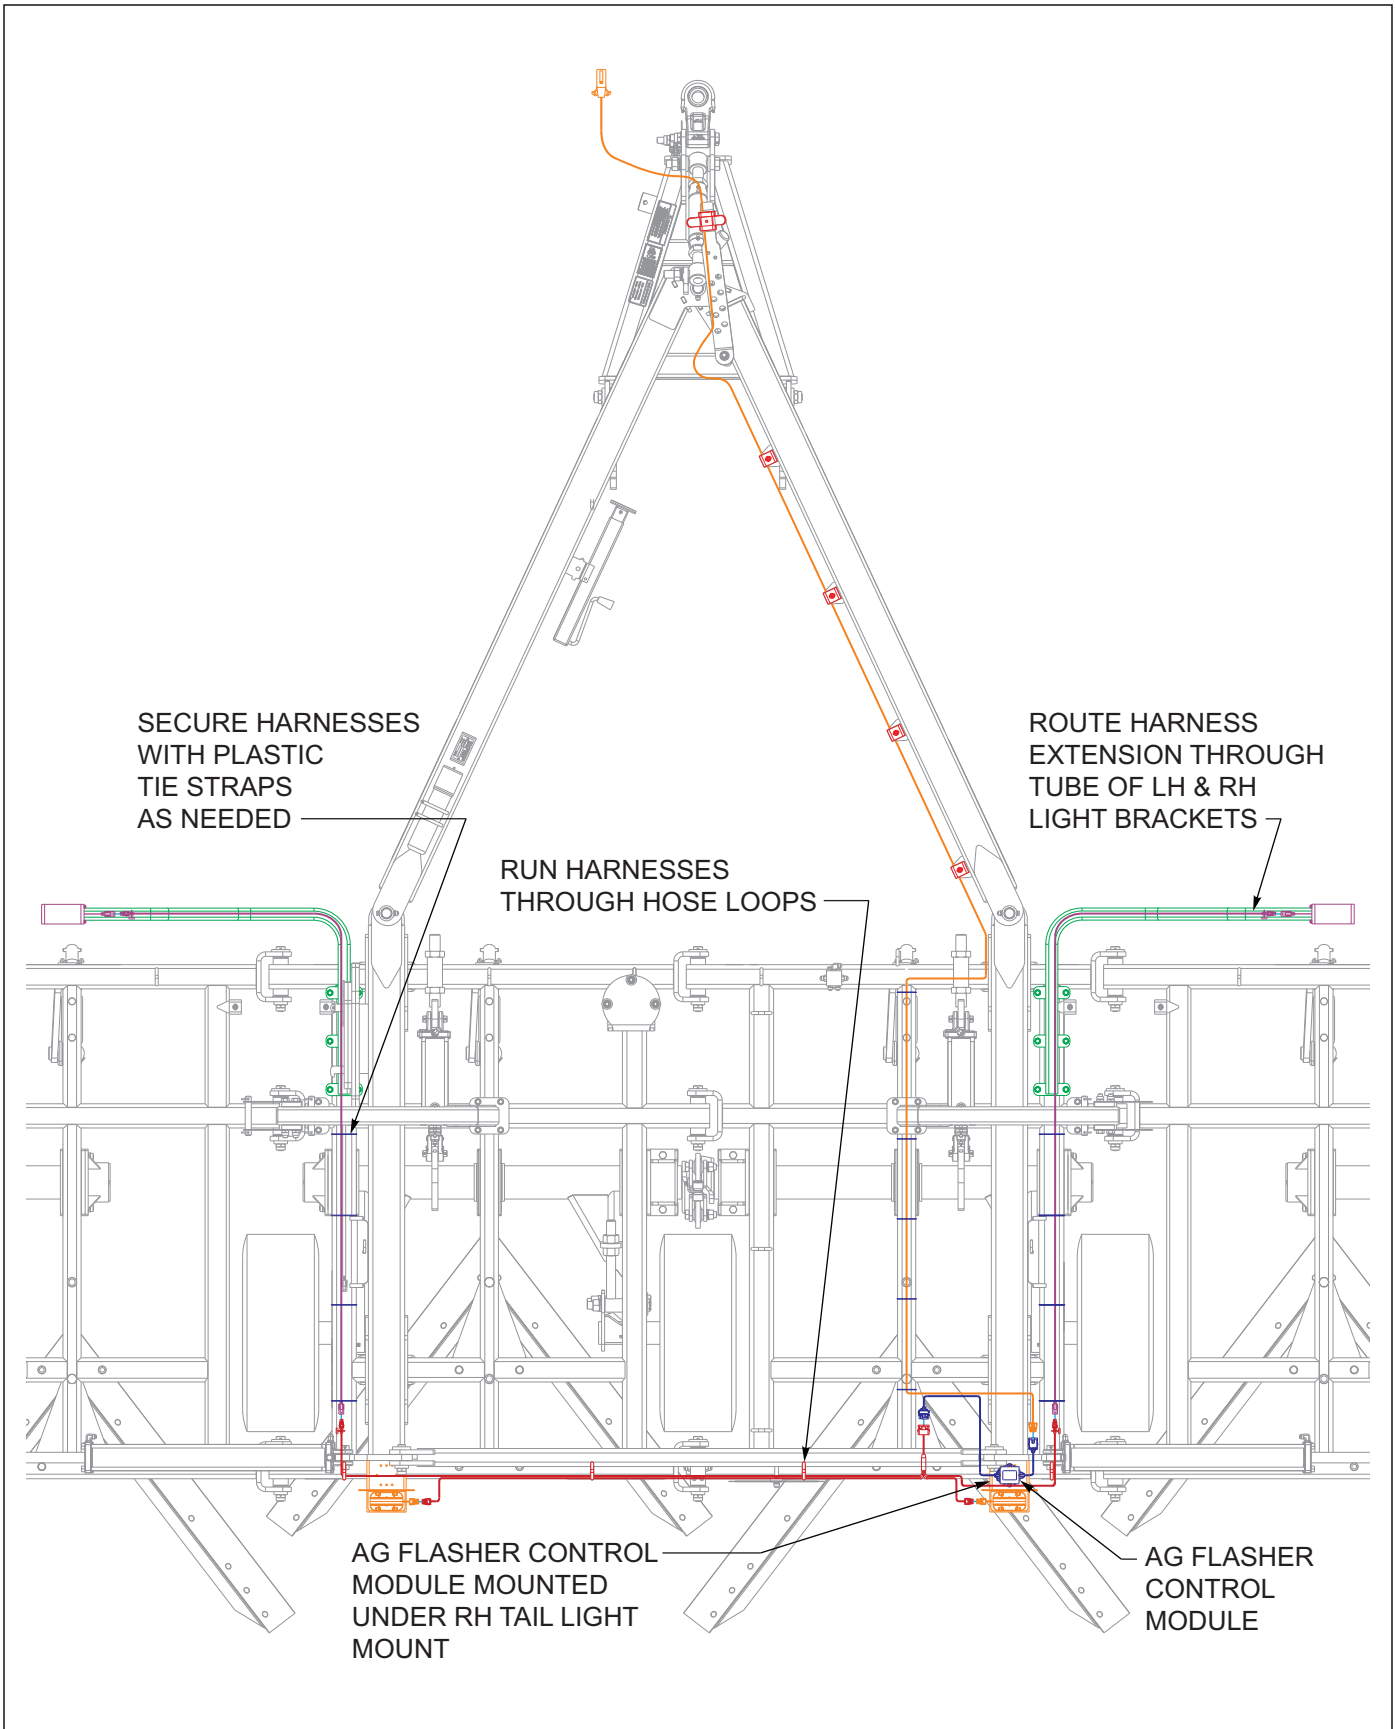
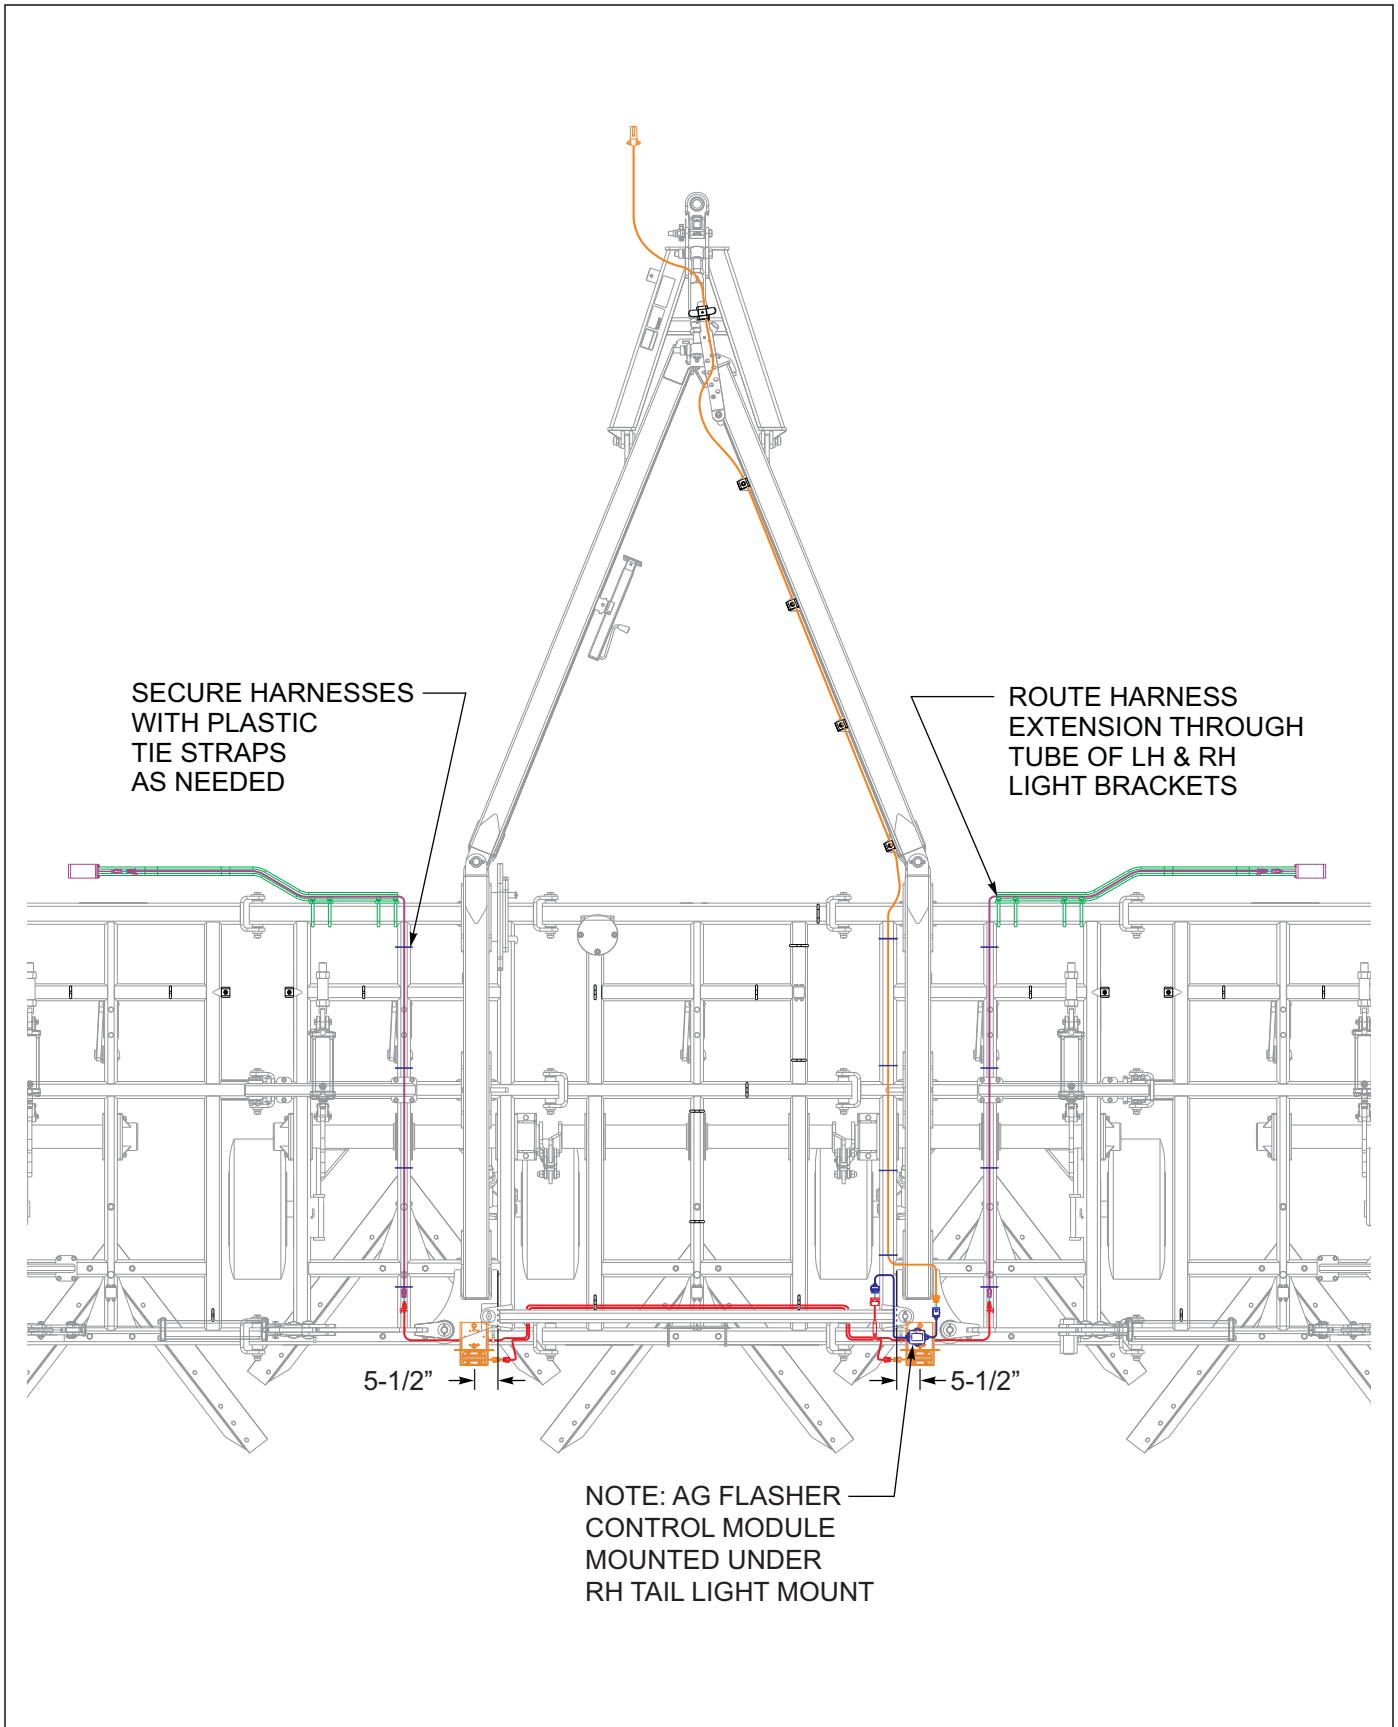

Figure 3-11: LED Light Layout 1760-35'
Figure 3-12: LED Light Layout 1770-40', 1790-52', 1710-64''
11. Refer to "Electrical Assembly w/led lights" section in Parts Manual for part numbers of light components. Refer to "Light Kit Layout" to insure all components are installed correctly **See Figure 3-11** for 1760-35' or **See Figure 3-12** for 1770-35', 1790-52' & 1710-64'.